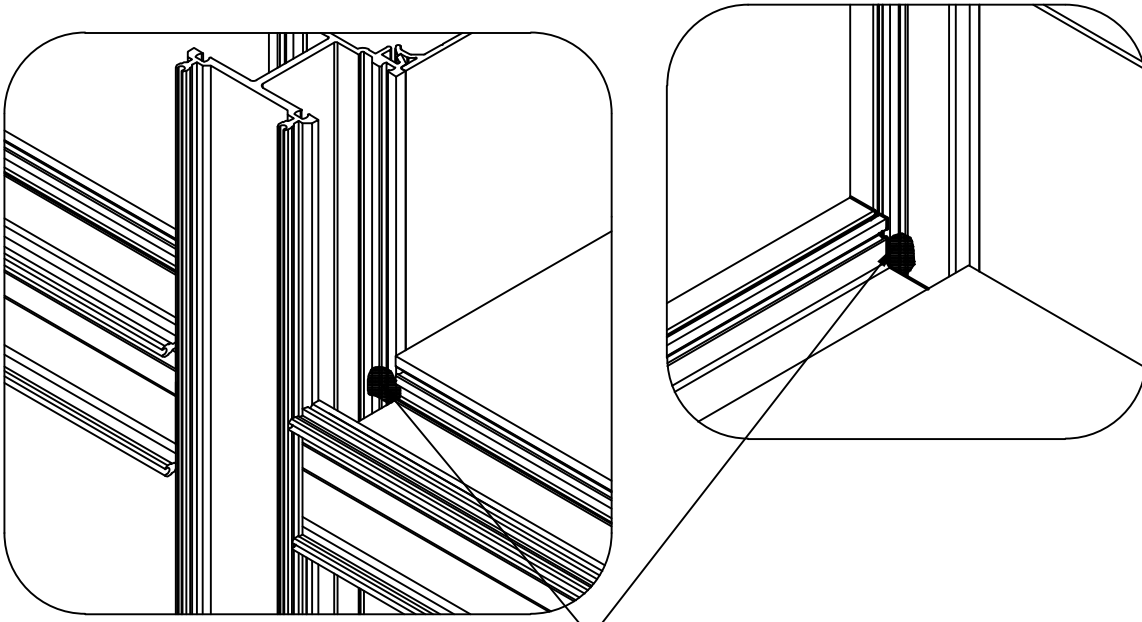

FIGURE 22
- 3.13 Step 1. Seal gasket races and adaptor tracks. Proper sealant of these tracks is critical to insure water does not drain through the tracks into glazing pocket below or penetrate interior of building at glass stops. SEE FIGURE 22, page 21.